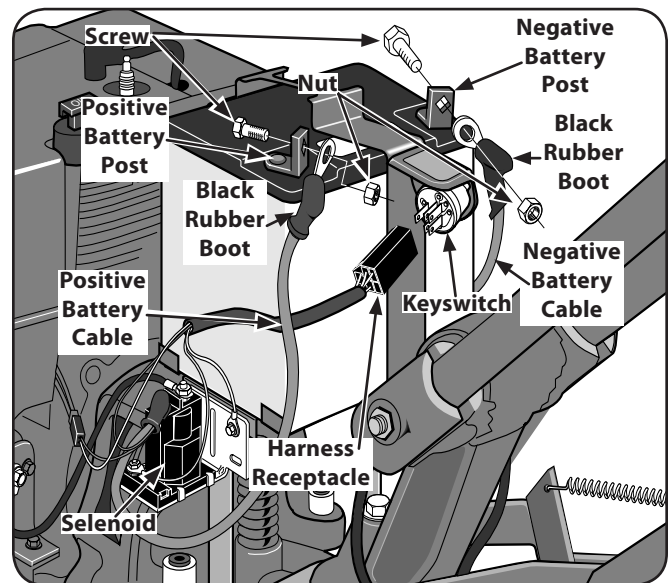

Figure 3-14
1. Before installing the battery and its hold-down clamp, insert the plastic wire harness receptacle into the prongs of the keyswitch located on the hold-down clamp. See Fig. 3-14.
2. Remove the ignition keys from the keyswitch and store them safely away. Do not insert the key into the keyswitch until you complete this section and read the Operation section. See Fig. 3-14.
- Use a  $\frac{5}{8}$ " long screw and  $\frac{1}{4}$ -20 hex nut to connect the positive (+) battery cable to the positive (+) battery post. Make sure that this is the cable on the left side, with one end attached to the solenoid. See Fig 3-14.
- Slide the black rubber boot completely over the battery post and cable connector. See Fig. 3-14.
- Use a  $\frac{5}{8}$ " long screw and  $\frac{1}{4}$ -20 hex nut to connect the negative (-) battery cable to the negative (-) battery post and secure with screw and nut. See Fig. 3-14.